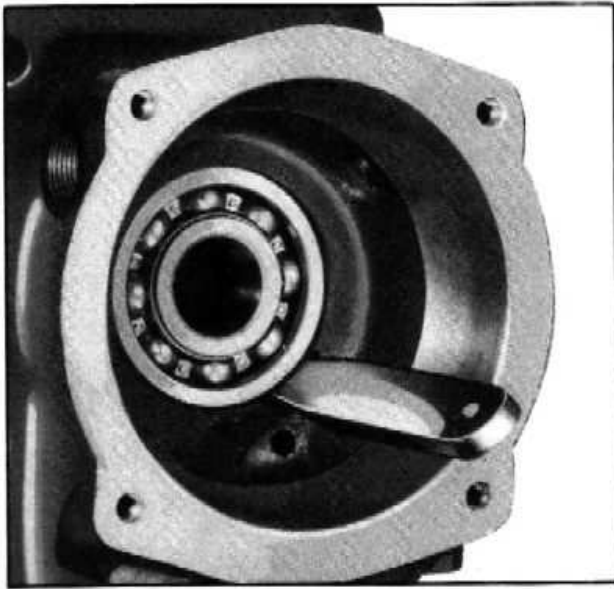

Fig. 6—Removing Rear Bearing
15. Expand the rear bearing lock ring into the case with the special expanding tool, J-935. This raises the lock ring from the groove in the bearing and the bearing may be removed by lightly tapping the outer race toward the inside of the case, Fig. 6.
- Start the bearing in from the rear, and use the lock ring expanding tool, J-935, to expand the ring into the case. Refer to Fig. 6.